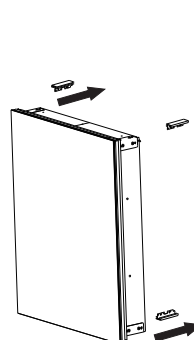

Fig.3
1. 3 Remove the four glass holders (Fig.3)